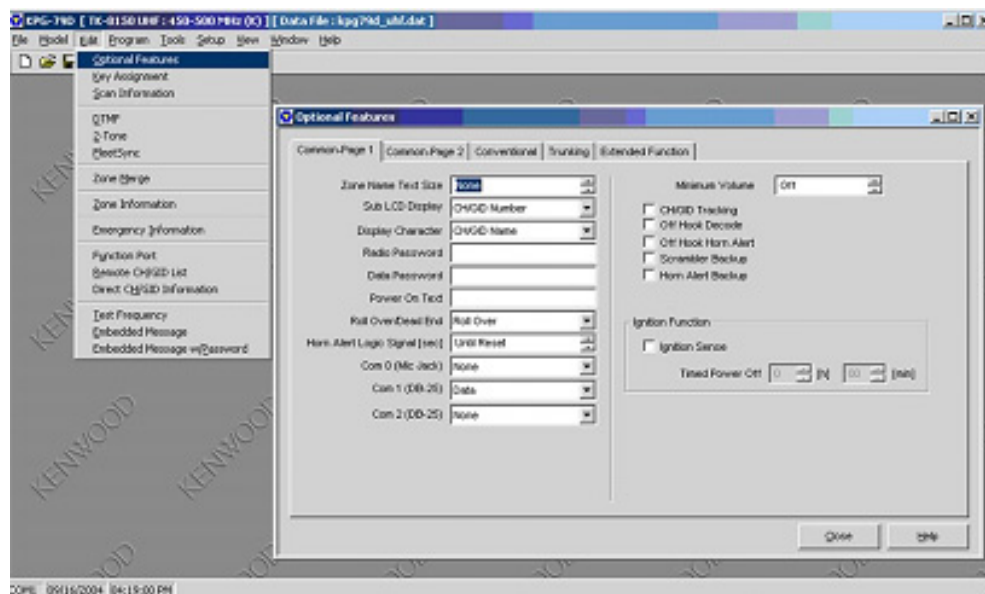

FIGURE 16. TK-x150/180 Com 1
2. Program **Com 1** for **DATA** (Figure 16).